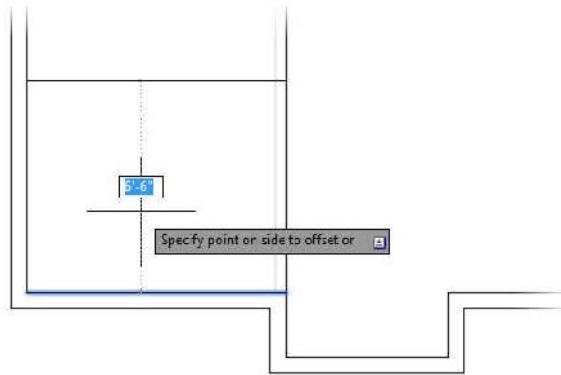

FIGURE 4.15: Selecting another wall line to offset
11. Pick a point on the inside lower-left exterior wall line (see Figure 4.15).